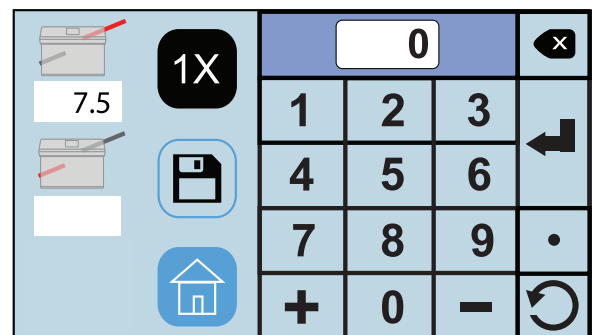

Fig. 16
The white box under the icon will show the measurement entered. (Fig. 16)
2. Select the lower fold plate icon  (Fig. 16) to set the fold stop position for the second fold (the icon will flash dark gray when selected). Using the touch pad, key in the measurement for the second fold stop position, (**Note:** the minimum position is 1.49" and the max. position is 8.40".).